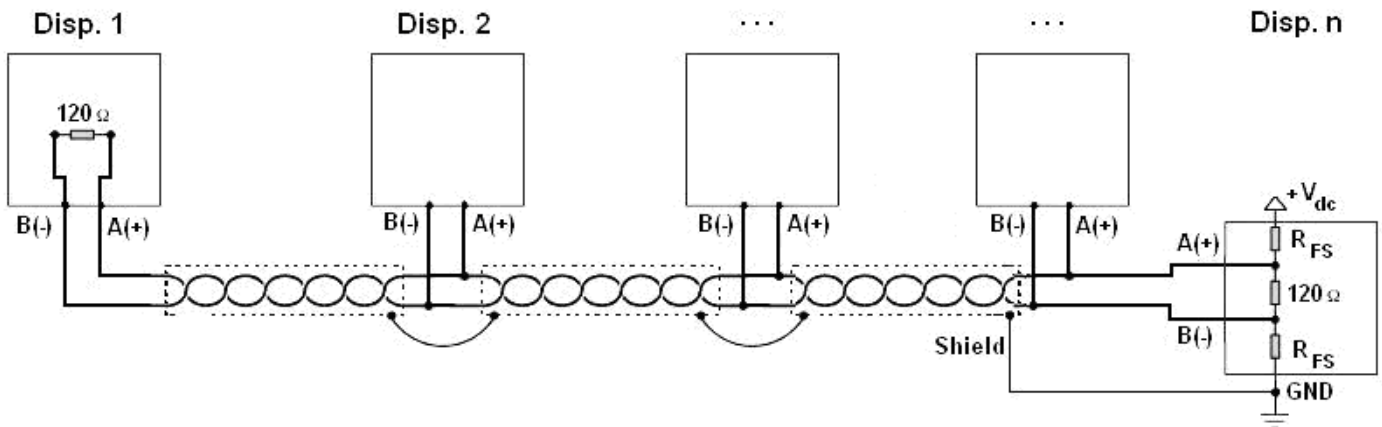

Figure 1: electrical diagram of RS485 connections.
- The shielding can be connected into a single point of the entire network (as shown in Figure 1) or both its ends, however it's important that **all the masses have the same potential**, in order to avoid the forming of current rings.
- On the RS485 network normally one connects 2 **termination resistances** equal to the characteristic impedance of the cable (typically 120 Ω, see Figure 1), **ONLY** on the 2 devices **which are at the 2 ends of the ring connection** (for example indicator and last device). The terminal resistance is not supplied with the ports of the indicator.
To create a resistive divider which maintains this difference of potential also when all the transmitters are disabled, inert in the RS485 port of the indicator where there are the termination resistances, the **polarisation** or **fail-safe resistences** ( $R_{FS}$  in Figure 1). The value of these resistances is between 390 Ω and 2,2 kΩ.